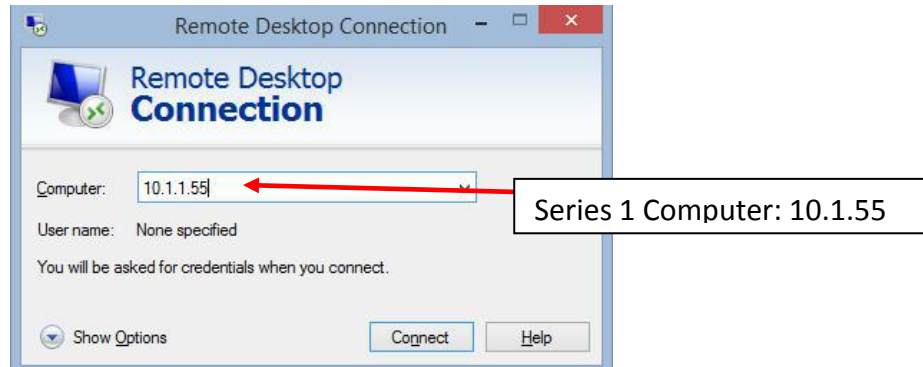
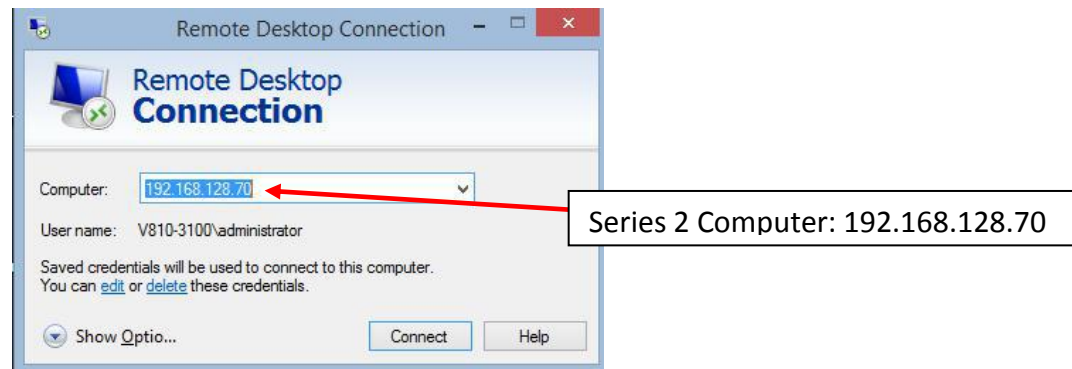

Figure 1 Series 1
Figure 2 Series 2
2. Login to the Atom PC and enter the computer name as shown below in Figure 1 (S1 Series) and Figure 2. (S2 Series)